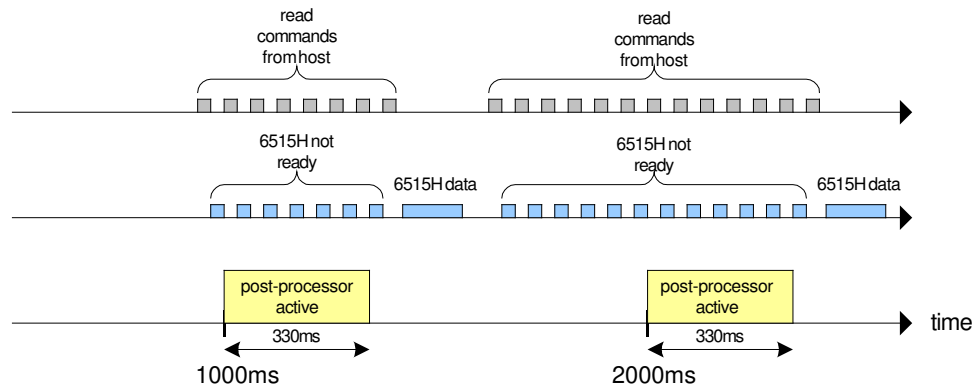

Figure 20: Timing Diagram (Host Polling)
- 2) Polling the *READY* bit in the *STATUS* word of the 71M6515H (status polling method, see Figure 20).